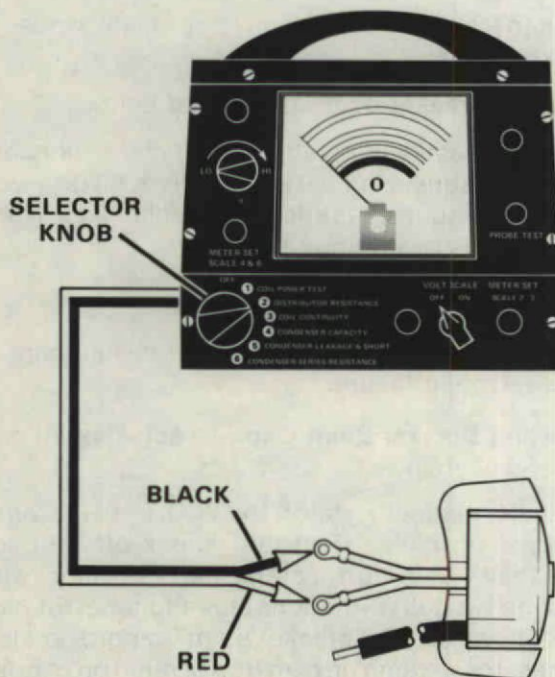

Figure 39. Testing Coil Continuity. Test #1.
2. Connect small red test lead to either primary terminal. Connect small black test lead to remaining primary terminal. Figure 39.